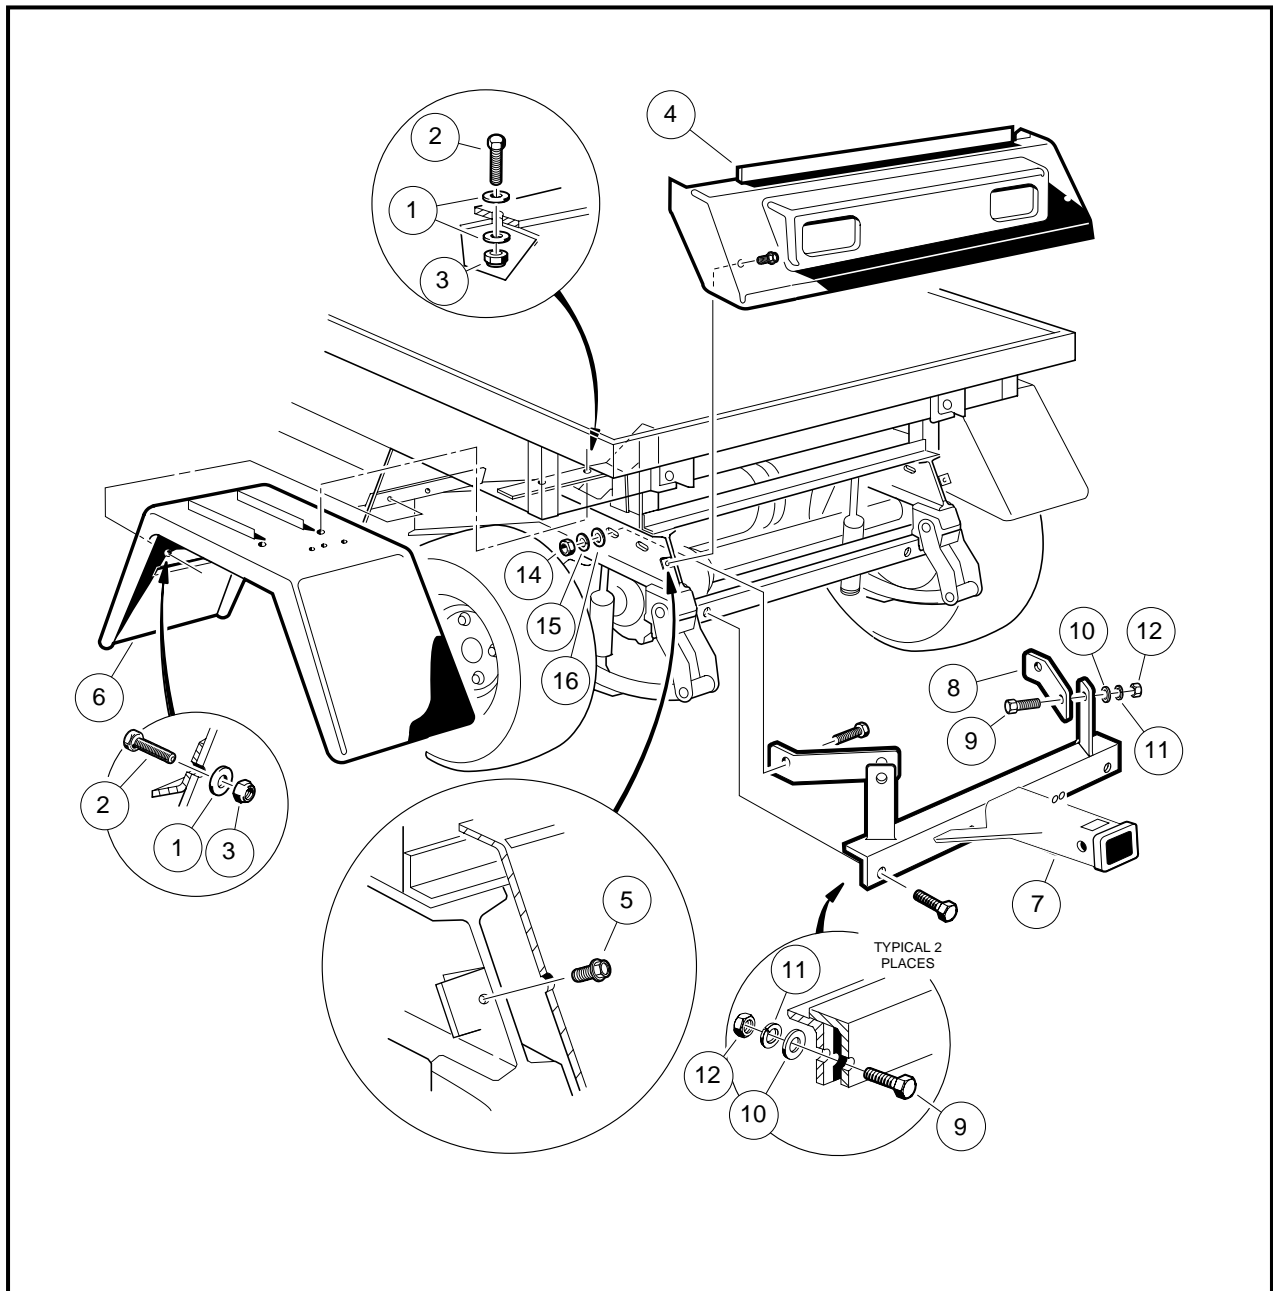

Figure 4-6 Rear Fender, Tailskirt, and Receiver Hitch
1. Remove two nylon locknuts (3) and flat washers (1) from front of fender. Remove two 1/4 x 1 bolts (2) from front of fender (6) **(Figure 4-6, Page 4-11)**.
2. Remove two nylon locknuts (3) and flat washers (1) from top of fender (6). Remove two 1/4 x 1 bolts (2) and flat washers (1) from the top of fender (6) **(Figure 4-6, Page 4-11)**.
3. Remove fender (6) from vehicle **(Figure 4-6, Page 4-11)**.
2. Where the hitch (7) is mounted to frame, remove two nuts (12), lock washers (11) washers (10) and bolts (9) (**Figure 4-6, Page 4-11**).
3. Where the hitch (7) is mounted to hitch brace (8), remove the nut (12), lock washer (11), washer (10) and bolts (9) **(Figure 4-6, Page 4-11)**.
4. Remove hitch (7) from vehicle.
1. Reverse removal procedures to install hitch (7) **(Figure 4-6, Page 4-11)**. Tighten hardware to 15 ft-lb (20.3 N·m).
1. Remove two thread-forming screws (5) from tailskirt (4) and lift tailskirt from vehicle frame **(Figure 4-6, Page 4-11)**.
1. Insert upper edge of tailskirt (4) under, and in front of, back edge of rear body **(Figure 4-6, Page 4-11)**.
2. Align holes in tailskirt (4) with holes in vehicle frame. Position tailskirt flush against frame **(Figure 4-6, Page 4-11)**.
3. Install two thread-forming screws (5) in tailskirt and tighten to 55 in-lb (6.2 N·m) **(Figure 4-6, Page 4-11)**.